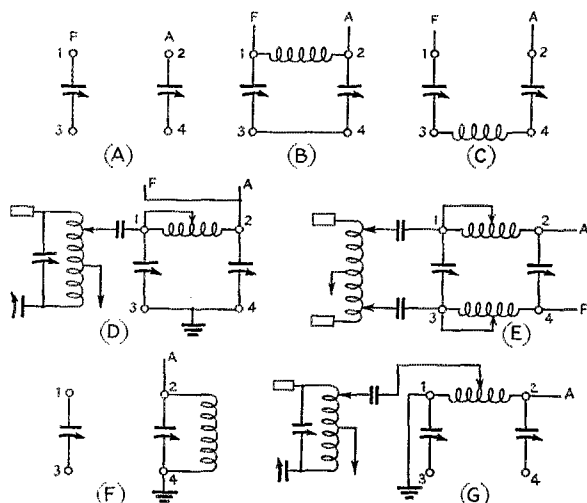

FIG. 1—UNIVERSAL ANTENNA-COUPLING ARRANGEMENT
After a little thought the system shown in Fig. 1, which I have christened a "universal antenna coupler," was devised. Four standoff insulators
with banana plug sockets in their ends are mounted in the form of a square about 5 inches on a side (the spacing of these insulators is determined by the length of the coils), and connected as in Fig. 1 (A) with two variable condensers between Nos. 1 and 3 and Nos. 2 and 4 insulators. For the sake of convenience the feeders are marked A and F, A being the one attached to the antenna and F the dead-end feeder. By plugging a coil in sockets 1 and 2 and a shorting bar in sockets 3 and 4 the feeders are parallel tuned, as in (B).